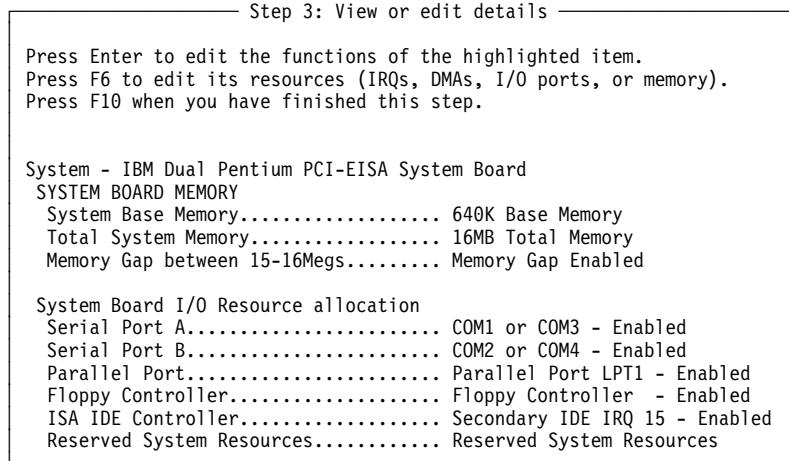

Figure 5. EISA Configuration Utility - View/Edit Details
- b. Press Enter to view configuration details. You will see a panel similar to that shown in Figure 5.